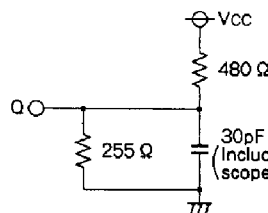
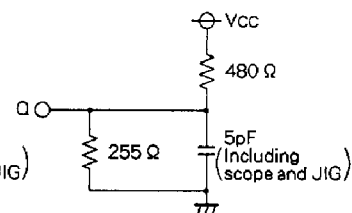

Fig.1 Output load
Fig.2 Output load for ten, tds
Output loads ..... Fig.1, Fig.2
3. Transition is measured  $\pm 500mV$  from steady state voltage with specified loading in Figure 2.